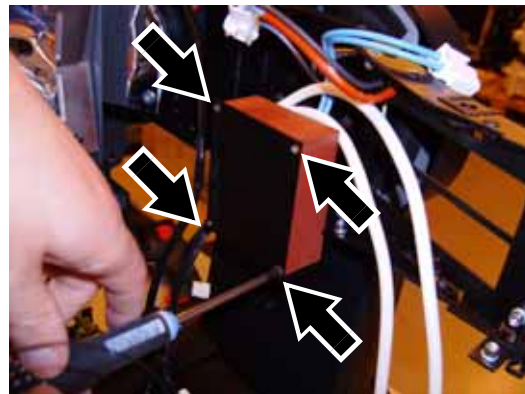

Figure 53
58. See Figure 53. Release the lamp leads all the way forward to the ignitor, noting how the lamp leads are routed. Disconnect the ignitor input connector, remove the four ignitor mounting screws (arrowed) and remove the ignitor. Keep the screws for re-use. The ignitor is no longer required, as a new ignitor is supplied with the Upgrade Kit.